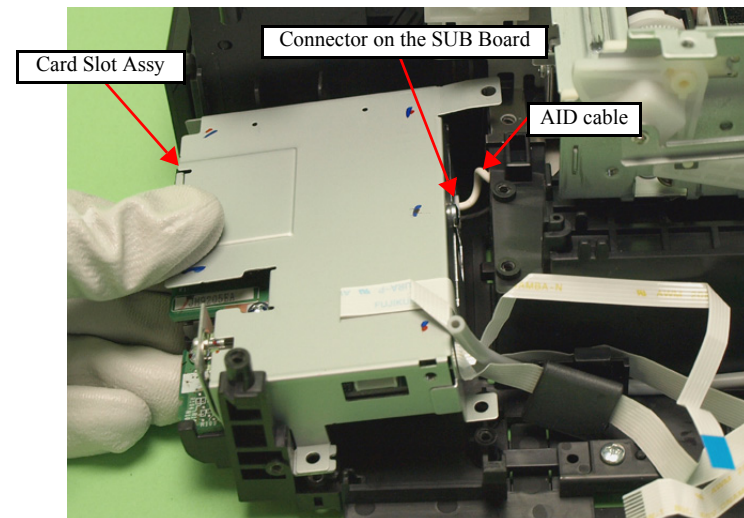

Figure 4-51. Removing the Card Slot Assy (2)
- Connect the AID cable properly to the connector on the SUB Board. (See Fig. 4-51.)